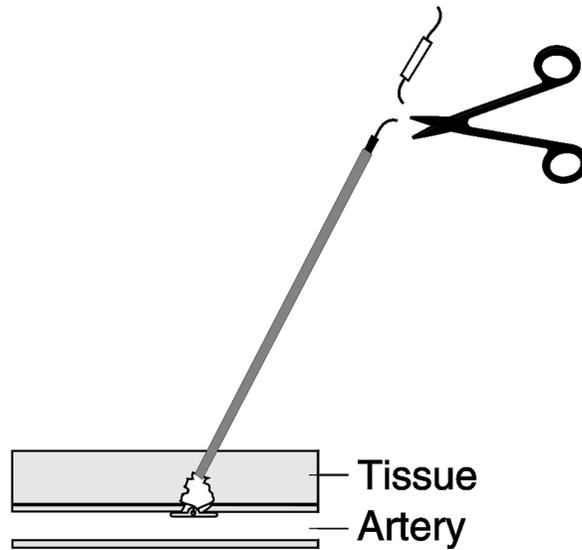

Fig. 18
5. Cut the suture below the clear stop (Figure 18). Remove the tamper tube using a slight twirling upward motion.